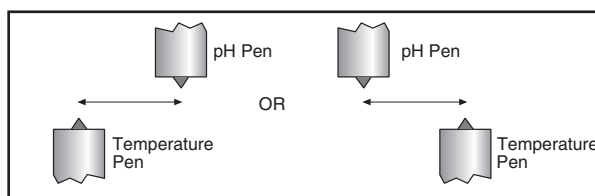

Figure 2-10. Offset Alignment of Pens (for ease of pen installation)
- a. If the pen arms are offset as shown in Figure 2-10, continue to Step 3:
1. Check to see that the pens are offset as shown in Figure 2-10. Otherwise, you can damage the arm and drive mechanism if you try to remove them.